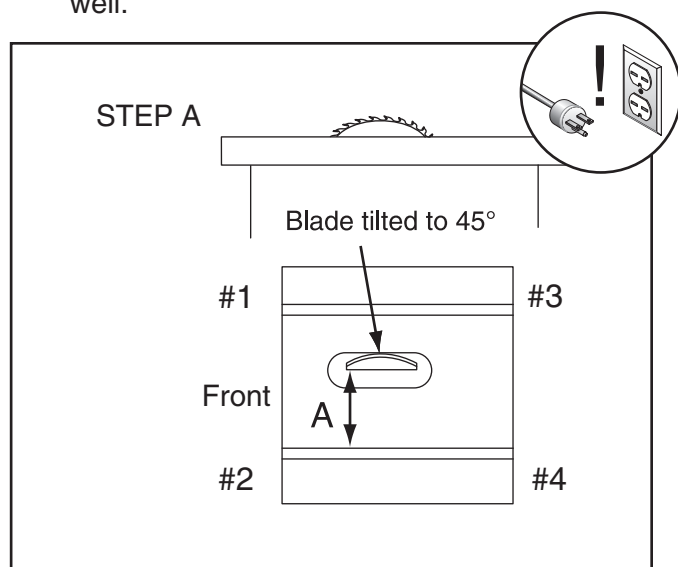

Figure 112. Shim procedure diagram A.
10. Refer to **Figures 112–113** for shim placement. If the distance of A is shorter than B, shim(s) will need to be placed under corners #1 and #2. If the distance of B is shorter than A, shim(s) will need to be placed under corners #3 and #4. Very thin shim stock works well.